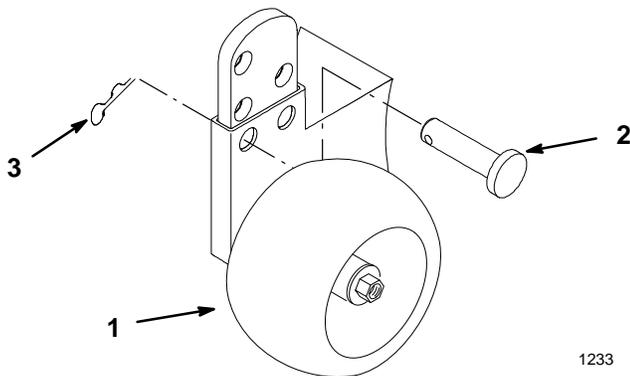

Figure 19
2. Remove hairpin cotter and pin to change hole location (Fig. 19).
3. Select a hole position so the wheel is 3/8" (9.5 mm) off the ground for the height-of-cut to be used (Fig. 19).